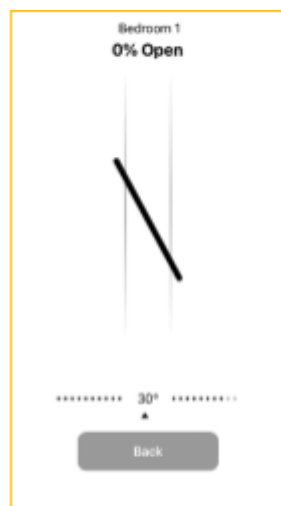
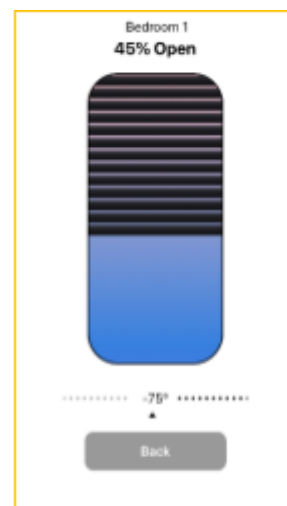

Figure 74
Figure 75
- ✔ If no scenarios are attributed to the BLINDS, their names are inactive (1), and the list of rooms shows standard scenario – **Manual** (2).
- ✔ The standard **Manual** scenario allows manual adjustment of the solar panels tilt angle (Fig. 74) and moving the BLINDS up or down (Fig. 75).